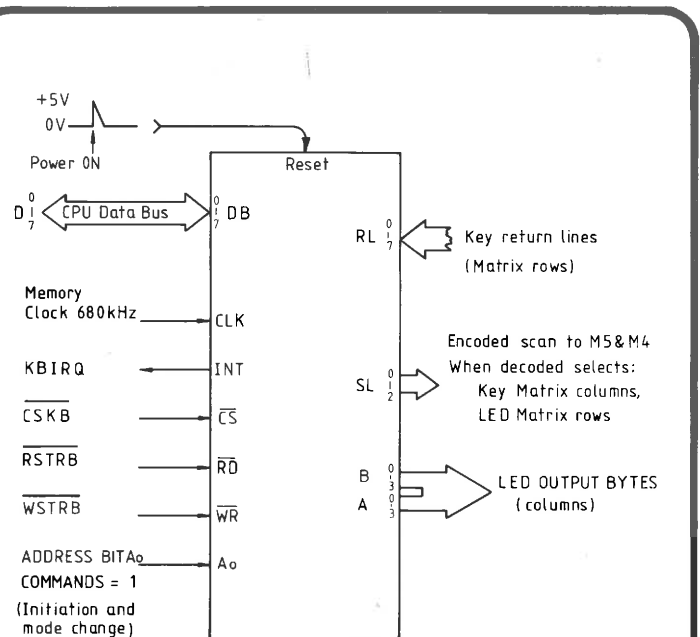

FIG. 4.10 M6 INTERFACE (P8279)
4.3.2 Programmable Interface M6 (Fig. 4.10)